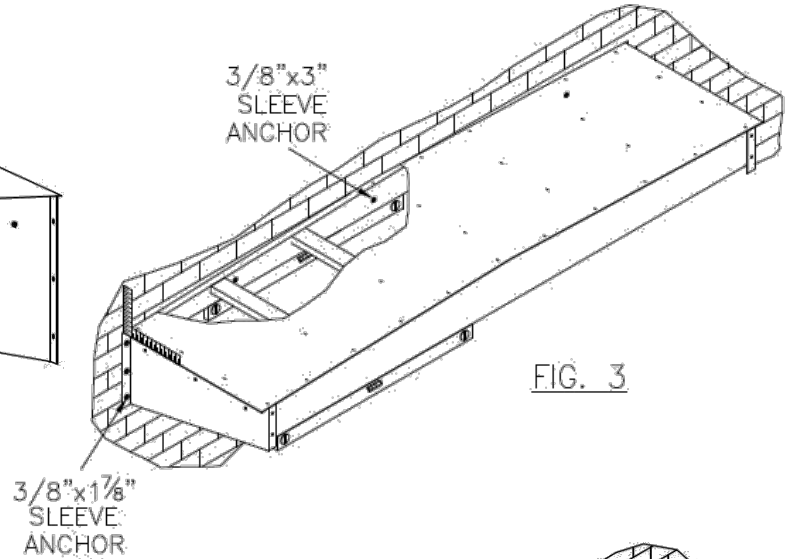

FIG. 3
- i. Place head frame on Marked Center Line on wall (Fig.3).